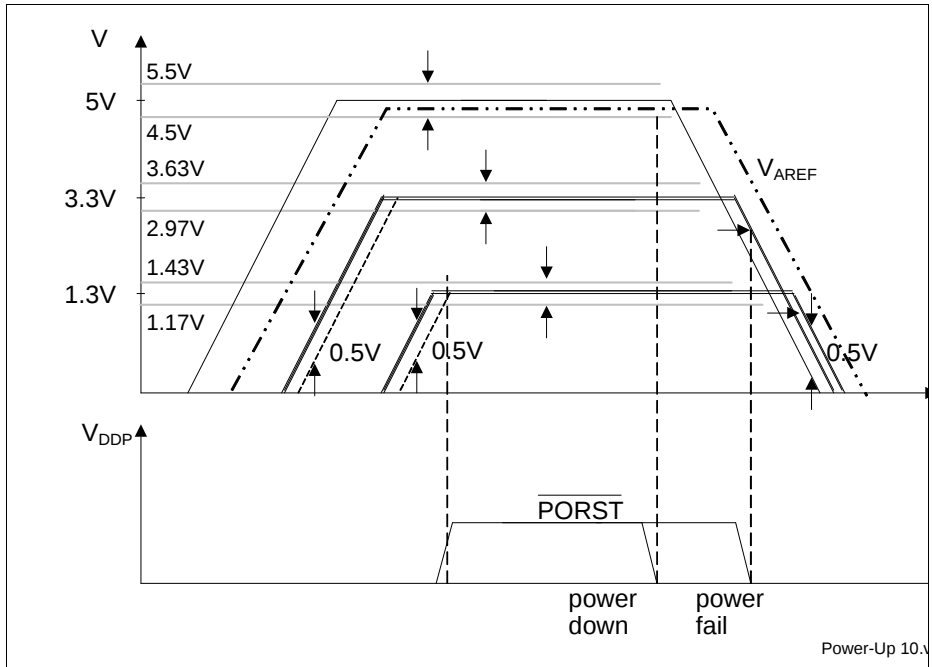

Figure 10 5 V / 3.3 V / 1.3 V Power-Up/Down Sequence
- At any moment in time to avoid increased latch-up risk, each power supply must be higher then any lower_power_supply - 0.5 V, or: $V_{DD5} > V_{DDP} - 0.5 \text{ V}$; $V_{DD5} > V_{DD} - 0.5 \text{ V}$; $V_{DDP} > V_{DD} - 0.5 \text{ V}$, see Figure 10.